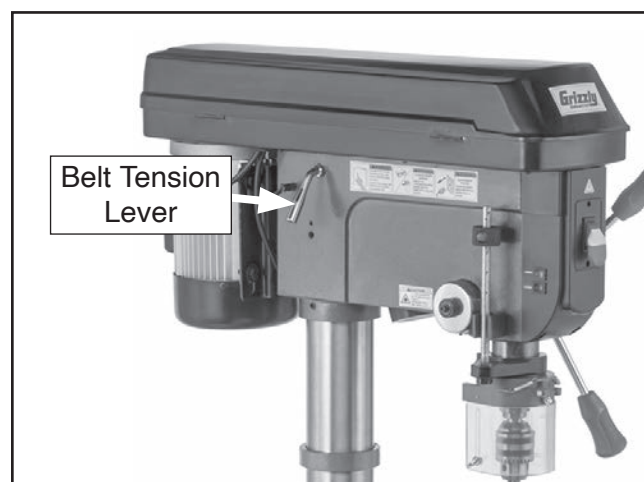

Figure 33. Location of belt tension lever.
5. Rotate belt tension lever counterclockwise to take tension off V-belts (see **Figure 33**).